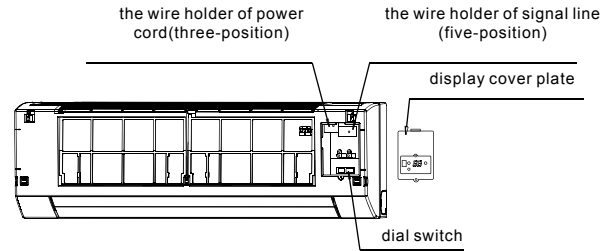

Fig. 7-2
- Individual connect the power cord and signal line, adjust the dial switch. (Refer to Fig 7-2)